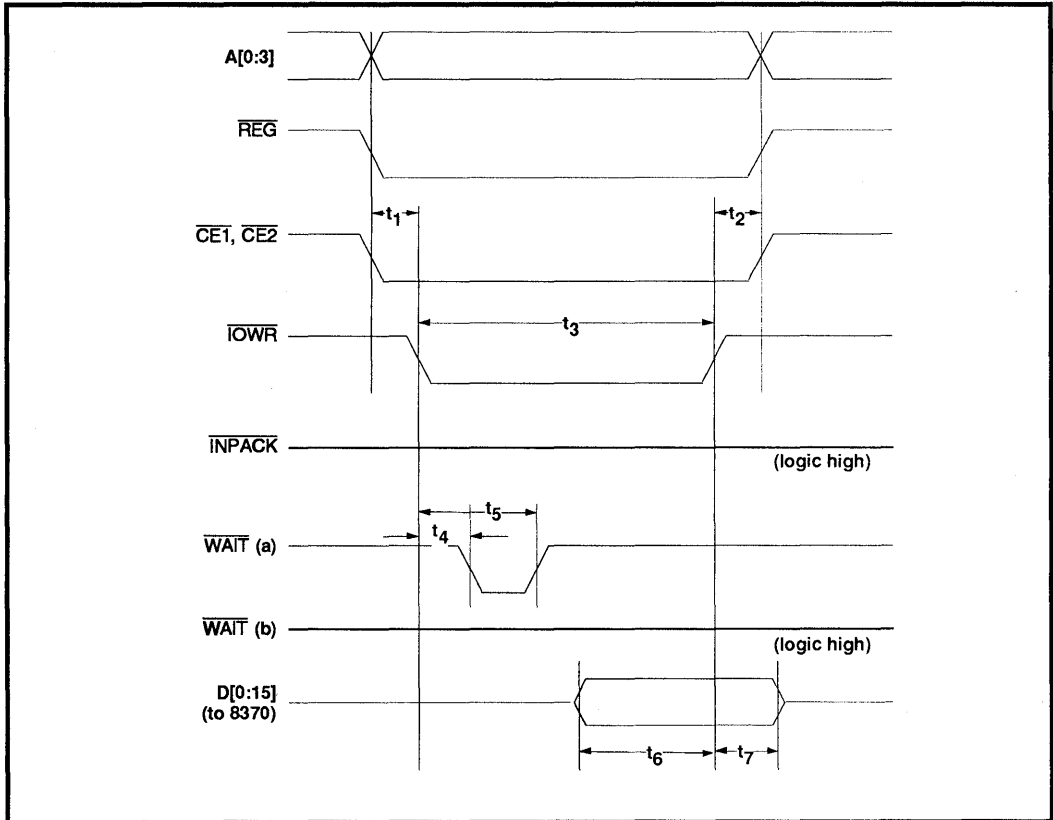

FIGURE 5: I/O Write Cycle (PCMCIA mode)
**TABLE 4: I/O Write Cycle (PCMCIA mode) (Refer to Figure 5)**